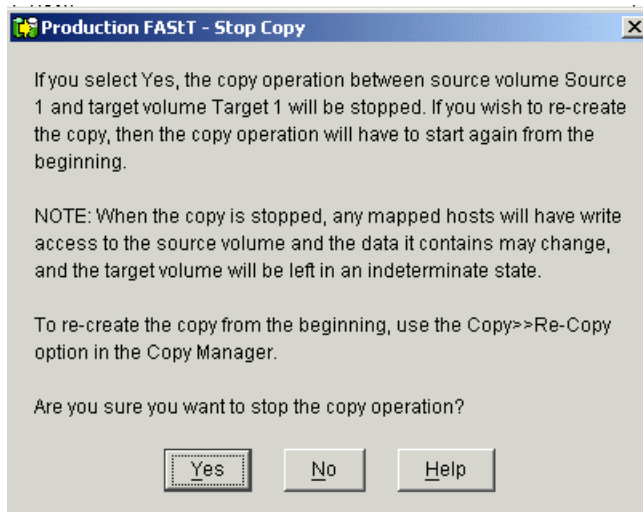

Figure 9-23 Stop Copy dialog
4. The Stop Copy dialog is displayed (Figure 9-23 on page 303). Read the information. Click **Yes** to proceed. The VolumeCopy is stopped.